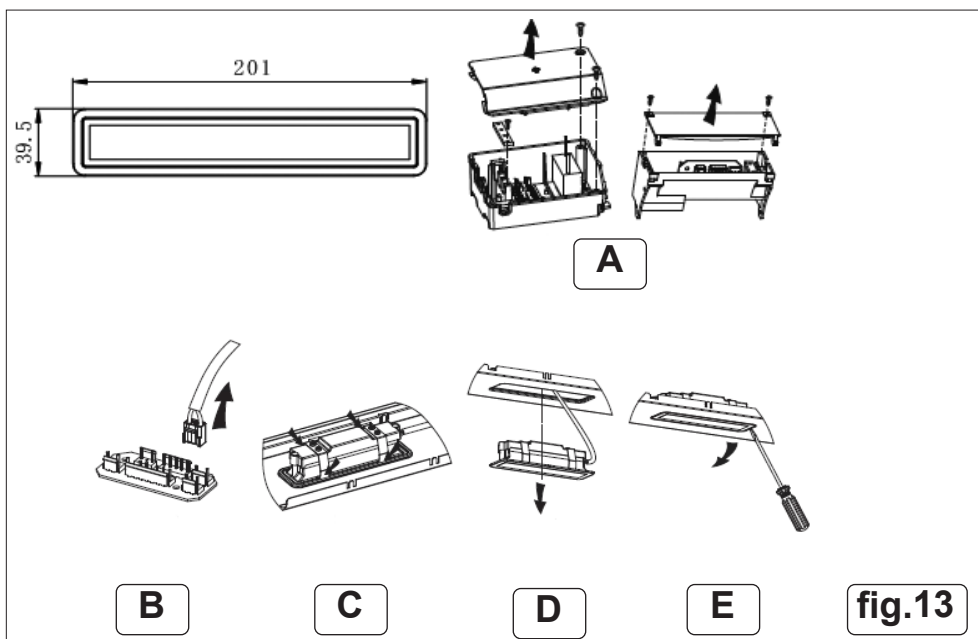

fig.13
- Locate the junction box, unscrew the screws on the junction box cover, and remove the junction box cover. (If there is wire pressing plate which retains the light wire, the wire pressing plate needs to be dismantled first), fig.13.A. The junction box has version a and b, depending on different models.
- Find the terminal of the light connecting wire and pull it out, fig.13.B.
- Method 1: Use a tool or the fingers to press the spring clip both sides of LED light to the inside, until the light is pressed out, fig.13.C.
- Method 2: Use straight screwdriver to prize up the LED light bottom edge, then slightly pull out the light connecting wire, fig.13.E.